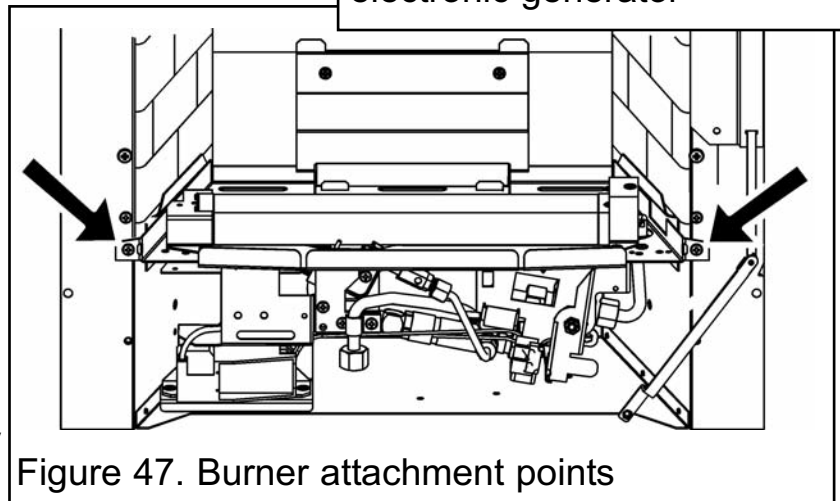

Figure 47. Burner attachment points
4. Detach the burner unit from the convection box by removing two screws (See figure 47).